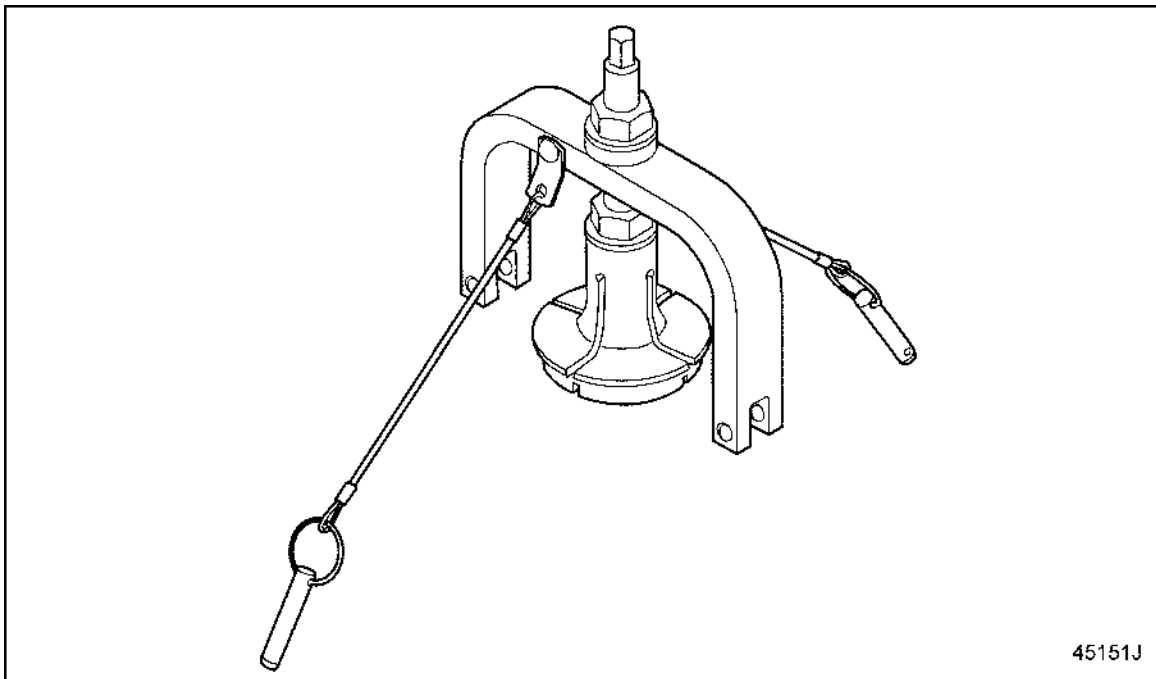

Figure 4 EGR Cooler Insert Removal Tool J-47195
2. Remove spherical insert from EGR cooler with Kent-Moore® tool J-47195. See Figure 4. Take care not to damage the EGR cooler when removing the insert. Discard the insert.